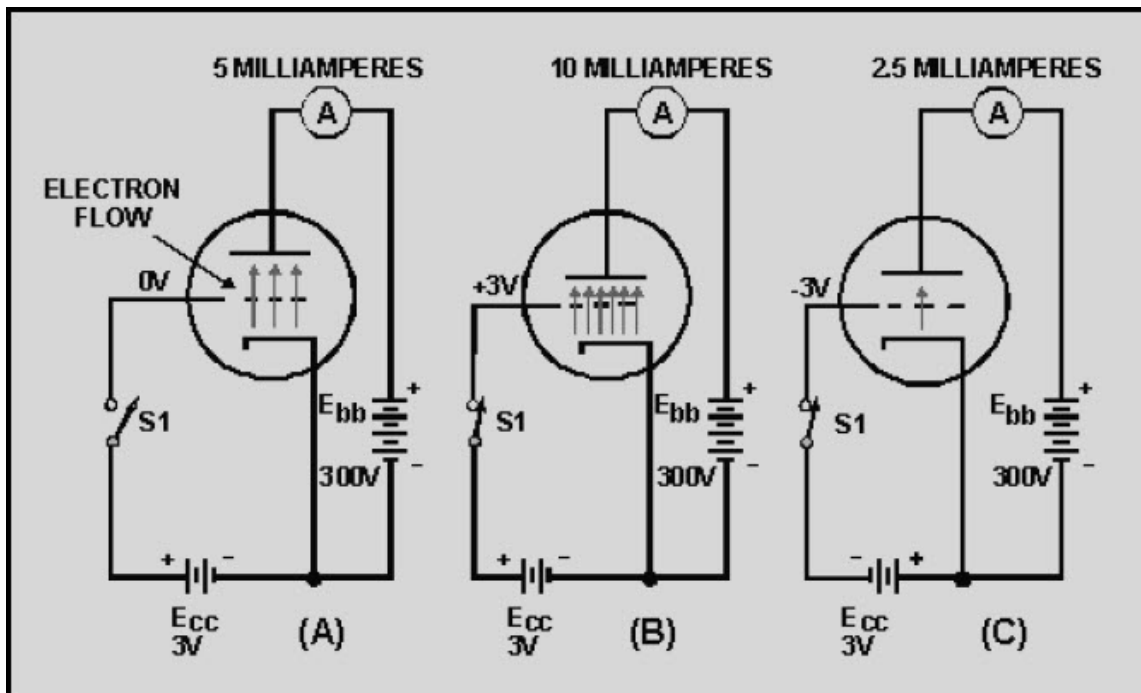

Figure 1-15 DeForest's experiment
In his next attempt, De Forest decided to change the element between the cathode and the plate. Instead of a solid metal plate, he used a wire mesh. This would allow electrons to flow from the cathode, **THROUGH THE WIRE MESH**, to the plate. This tube circuit is shown in figure 1-15. In view (A) you see De Forest's circuit with 0 volts applied to the third element, (today called a control grid or occasionally just the grid). Under these conditions, assume that the ammeter reads 5 milliamperes. With no voltage applied to the grid, the grid has little effect on the electron stream. For all practical purposes, the control grid is not there. Most electrons flow through the open mesh. The tube functions as a diode.
DeForest had certainly hit on something. Now the problem was to find out what would happen when a negative potential was applied to the grid. This is shown in view (C) of figure 1-15. When De Forest applied -3 volts to the grid, he found that plate current decreased to half of what it was when the grid had no voltage applied. The reason for this is found in the principle of "likes repel." The negatively charged grid simply repelled some of the electrons back toward the cathode. In this manner, the attractive effect of the plate was decreased, and less current flowed to the plate.
The circuit is identical to the one in figure 1-15 except that now a resistor (called a plate-load resistor, R_L) has been added to the plate circuit, and a voltmeter has been added to measure the voltage drop across R_L .
Let's take another look at the circuit in figure 1-15(B). We found that the positive charge on the grid caused more plate current to flow. However, when the grid becomes positive, it begins to act like a small plate. It draws a few electrons from the space charge. These electrons flow from the cathode across the gap to the positive grid, and back through the external grid circuit to the cathode. This flow is known as *grid current*. In some tube applications, grid current is desired. In others it is relatively harmless, while in some, grid current causes problems and must be eliminated.